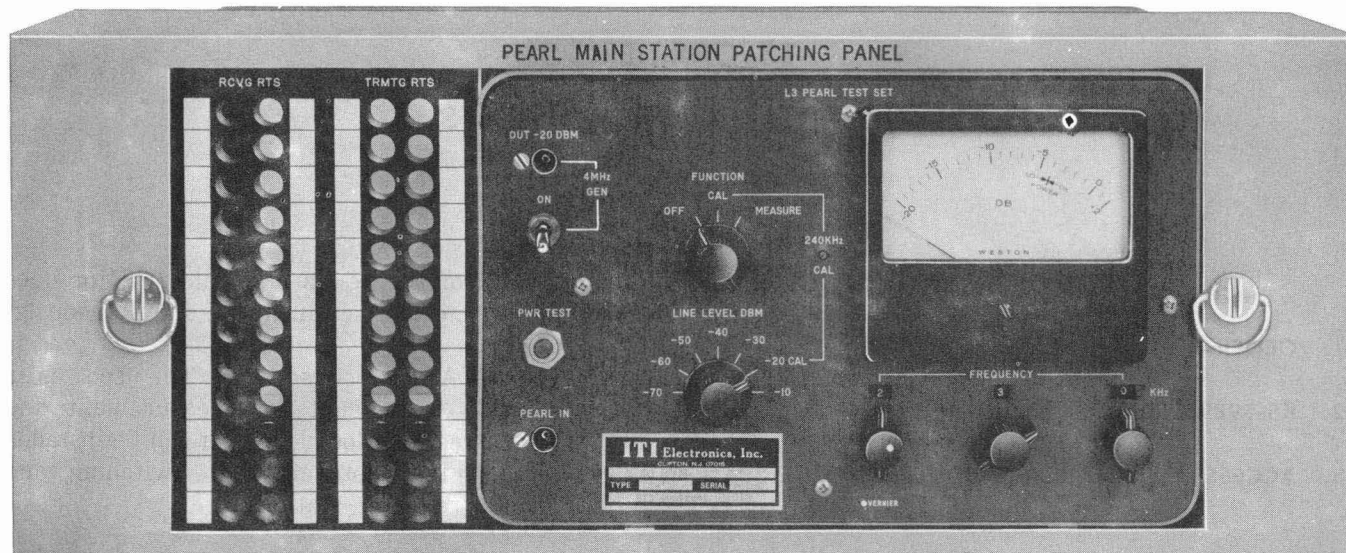

Fig. 1—J68830R PEARL Main Station Patching Panel
2.03 At main repeater stations a J68830R patching panel holds the PEARL test set and jack field (see Fig. 1). Spaces are provided adjacent to each jack in the jack field for route identification. A short coaxial cord type P2DW or equivalent is used to patch the appropriate trunk to the test set.